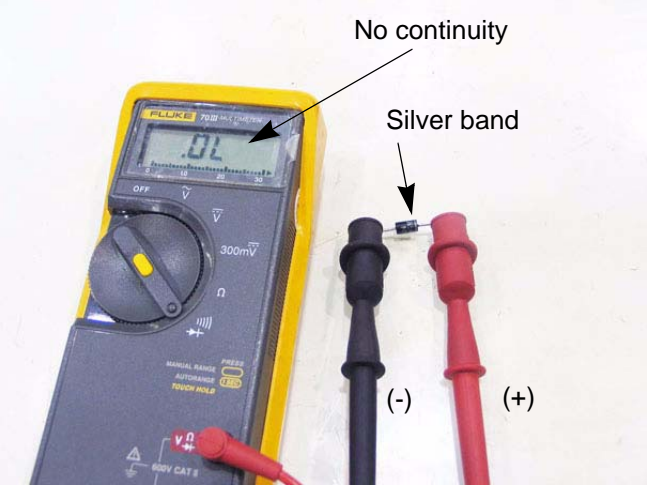

Figure 7.50
- 7. The meter should indicate no continuity. See Figure 7.50.